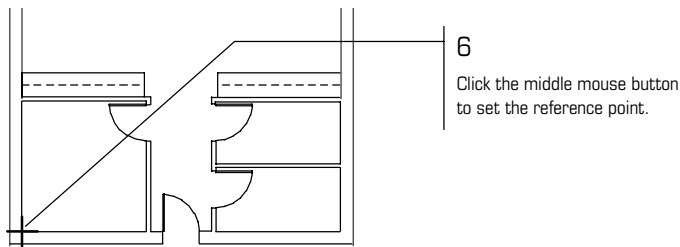

Figure 3.45: Setting a reference point
6. Click the middle mouse button near the lower left corner of the interior wall shown in Figure 3.45. This will be your reference point. You are prompted to “Select one jamb of window”.